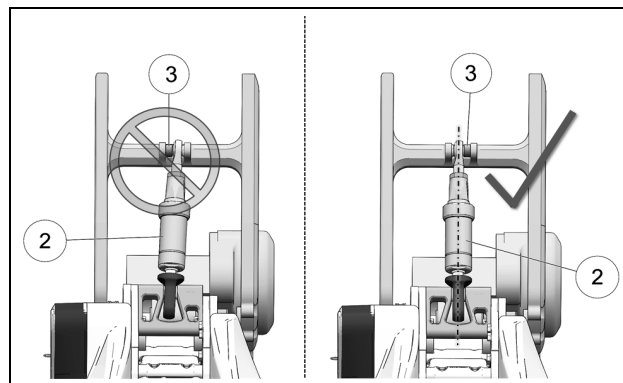

Figure 20
- Verify and adjust if needed the insertion direction of the spacer bushing (3) to align the Soft Strut (2) as straight as possible once the rear System is installed. See Figure 20.